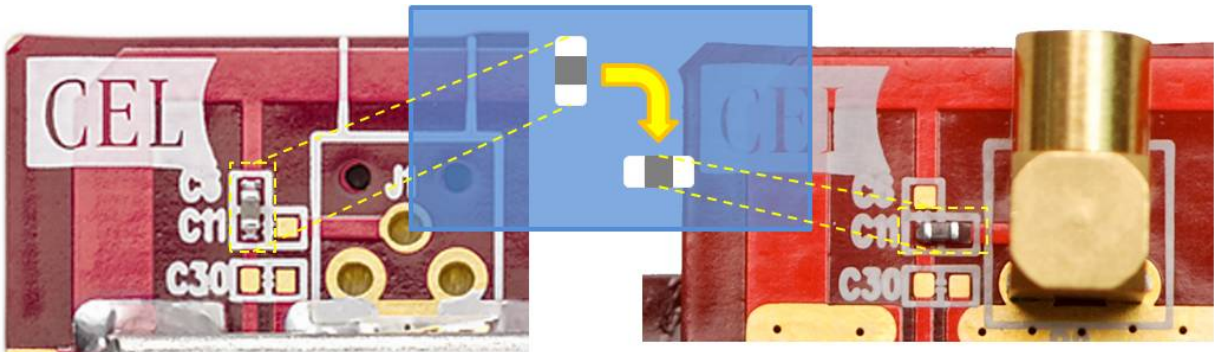

Figure 41 – Diagram, External Antenna Capacitor Change
- 2) Change the position of the capacitor as shown in Figure 41 (or replace with new).